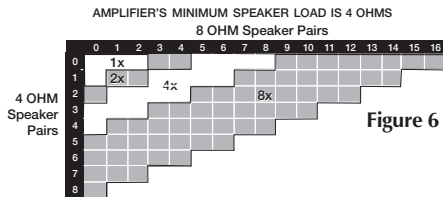
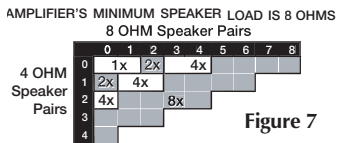
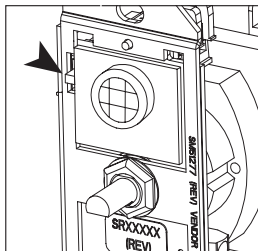

Figure 6
Figure 7
Figure 9
3. Read the correct switch position from the charts on page 13. See Figure 6 if your amplifier can drive a 4-ohm load. See Figure 7 if your amplifier must have an 8-ohm speaker load.
4. Set the switch on each control to the same position (1x, 2x, 4x, or 8x). See Figure 9.
6. Set the Impedance Magnification Switch (Figure 9) as determined by the IM charts (Figures 6 and 7).